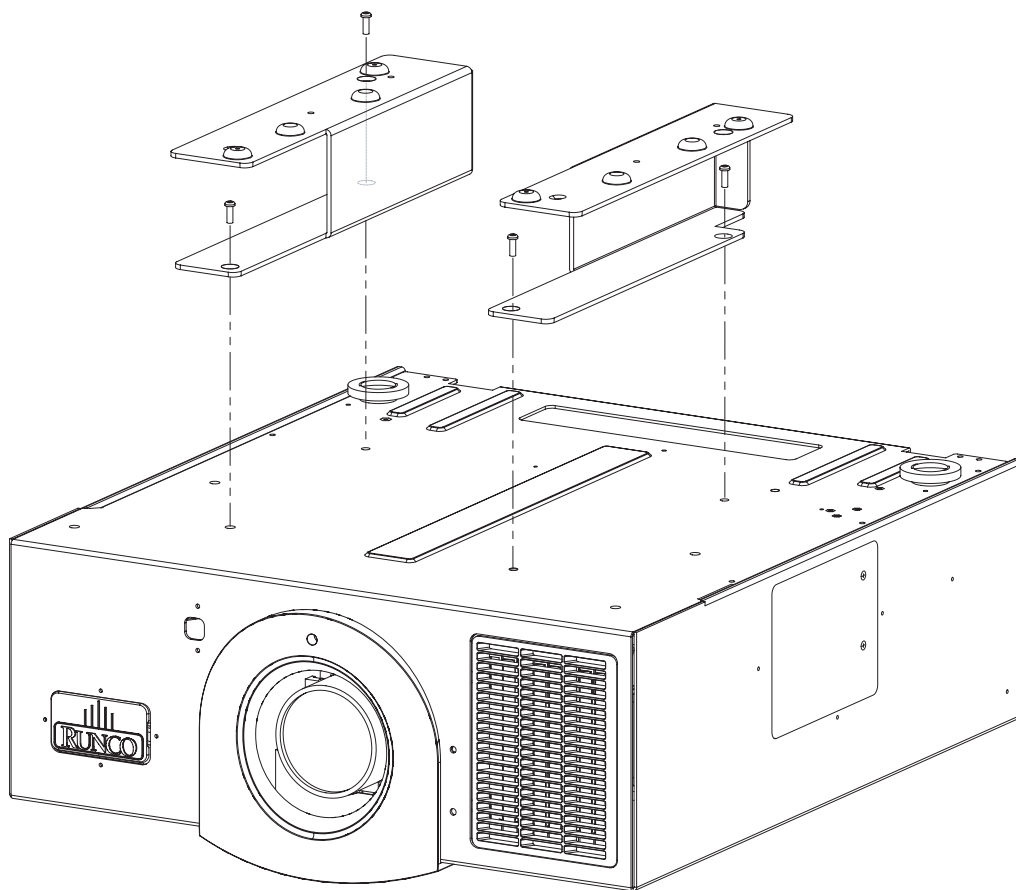

Figure 3-8. VX-3000 with Ceiling Mount Adapters/Projector Stands
Using the four (4), supplied M6 x 12mm Flat-Head Phillips screws (item #6), attach the AutoScope Ceiling Mount Adapters/Projector Stands (items #4 and #5) to the projector as shown in Figure 3-8.